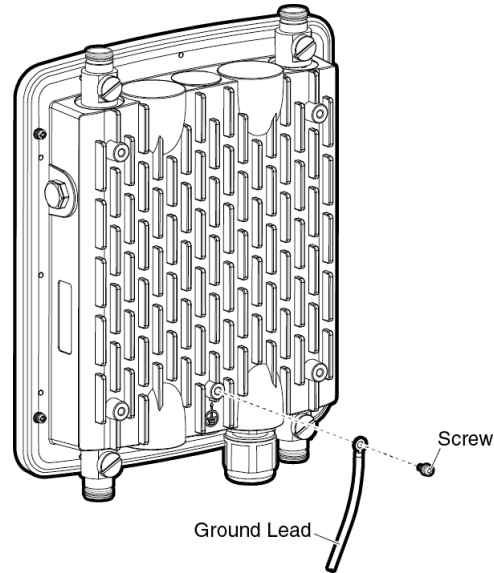

Figure 4. Aligning the Access Point with Ground Cable
1. Align the ground cable hole on the access point with the ring terminal of the ground cable as shown in Figure 4 on page 27.